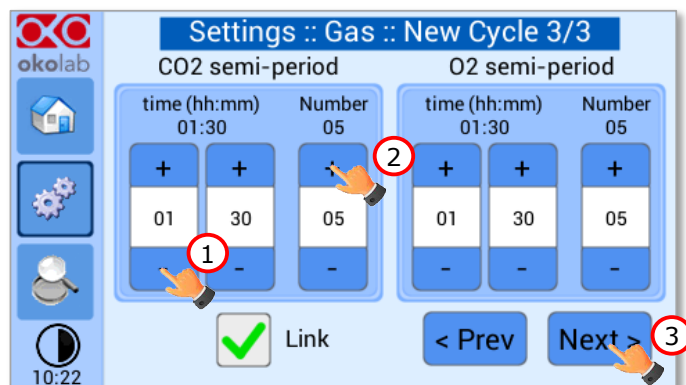

Figure 53. Set the duration of the Gas Cycle.
2. Set the duration in hours and minutes you want the system to dwell on each concentration (1 in Figure 53).
3. Set the number of cycles (*Number*) you want the system performs (2 in Figure 53). Finally press *Next>* (3 Figure 53).